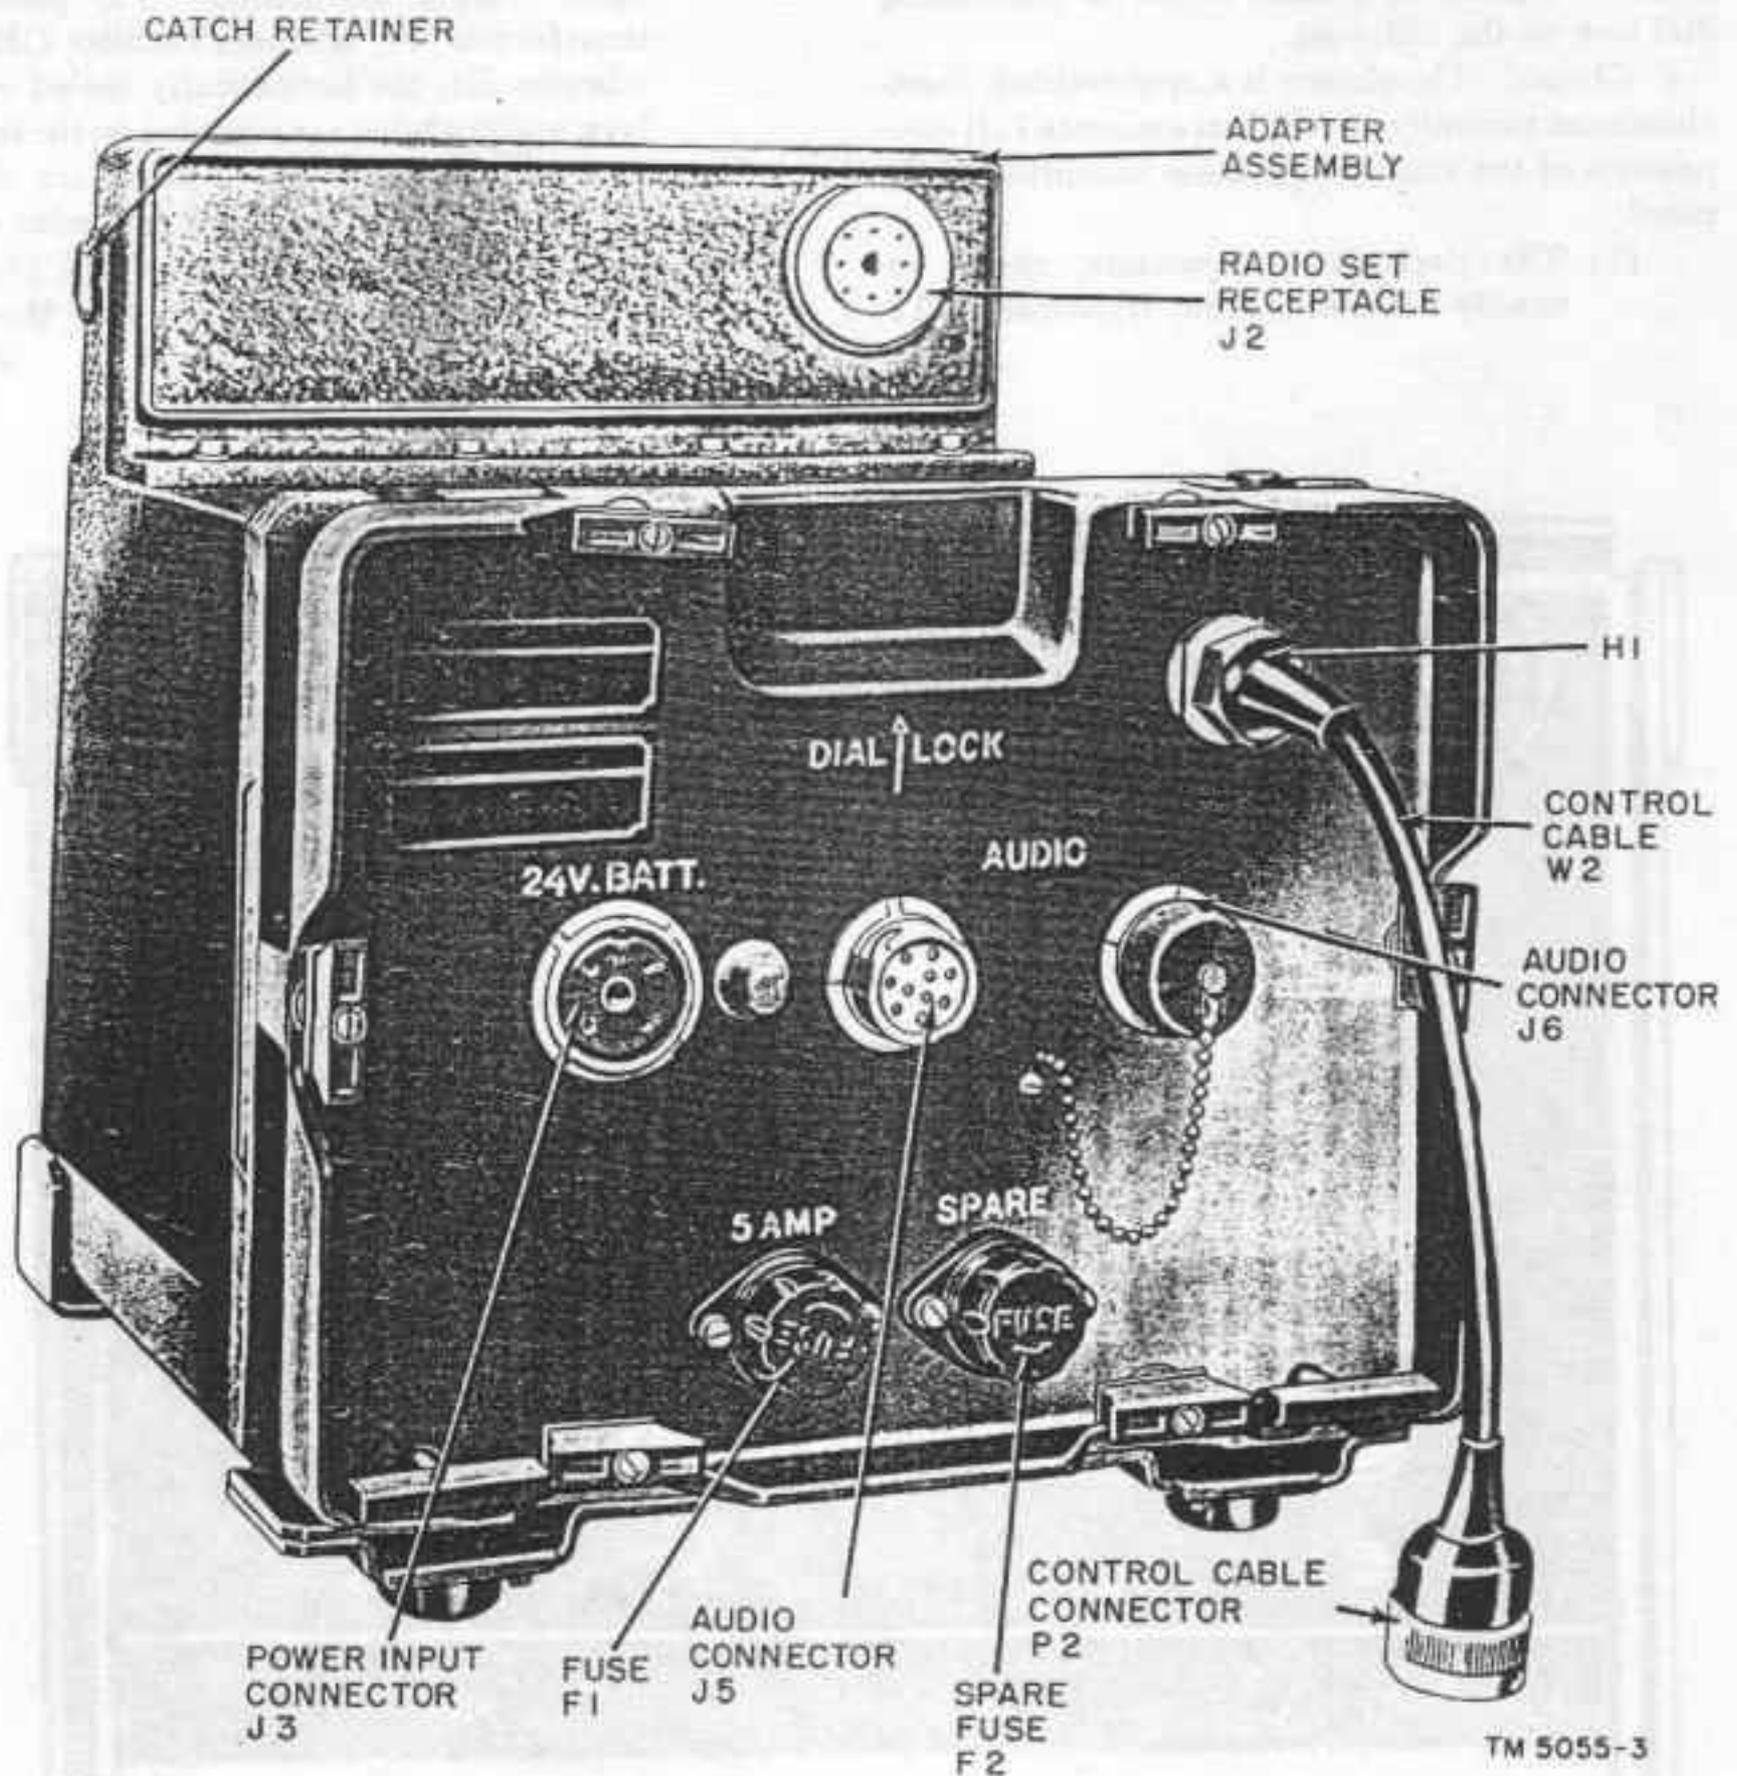

Figure 4. Amplifier-power supply AM-598/U, front oblique view.
b. *Case.* The case is fabricated of cast aluminum. Inside the rear of the case is receptacle J4, which mates with the power output receptacle permanently mounted on the rear of the chassis. A short seven-wire cable connects the case receptacle (J4) to receptacle J2, which is mounted on an adapter assembly. The assembly is bolted to the top of the case. The cable is inclosed in a trough protected by a metal plate. The receptacle on the adapter assembly mates with the power plug on the rear of the radio set. Two catch retainers (fig. 4), one on each side of the adapter assembly, receive two spring clamps on the radio